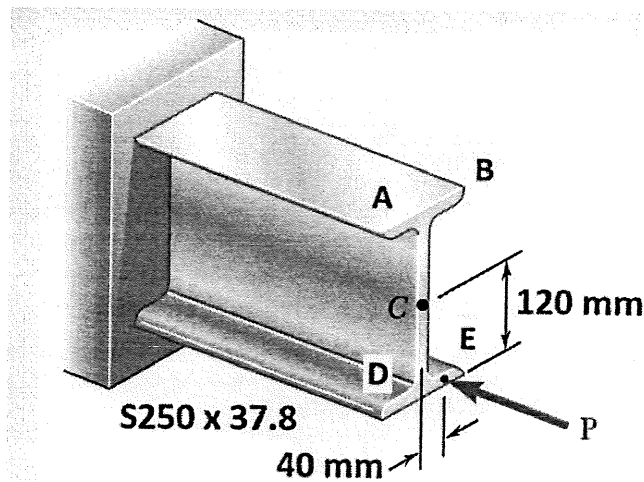

Figure 8
- b) Horizontal load P is applied to a short section of an S250 X 37.8 rolled-steel member as shown in Figure 8. Knowing that the compressive stress not to exceed 83 MPa.